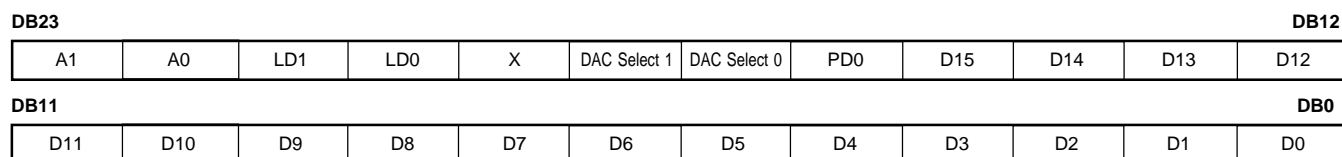

FIGURE 3. DAC8534 Data Input Register Format.
The input shift register (SR) of the DAC8534 is 24 bits wide, as shown in Figure 3, and is made up of 8 control bits (DB16-DB23) and 16 data bits (DB0-DB15). The first two control bits (DB22 and DB23) are the address match bits. The DAC8534 offers additional hardware-enabled addressing capability allowing a single host to talk to up to four DAC8534s through a single SPI bus without any glue logic, enabling up to 16-channel operation. The state of DB23 should match the state of pin A1, similarly, the state of DB22 should match the state of pin A0. If there is no match, the control command and the data (DB21...DB0) are ignored by the DAC8534. That is, if there is no match, the DAC8534 is not addressed. Address matching can be overridden by the broadcast update, as will be explained.